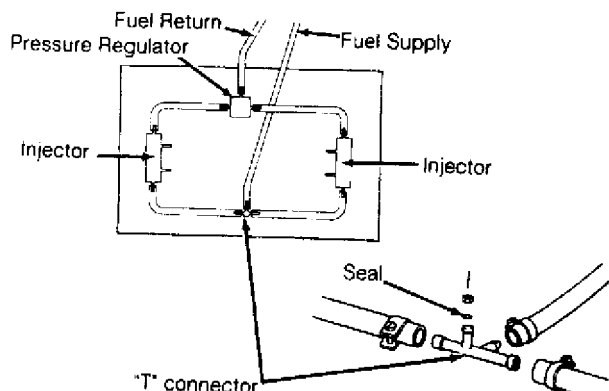

Fig. 2: Testing Fuel Pump Pressure (Vanagon)
1) Install Fuel Pressure Gauge (VW 1318) at fuel supply hose 3-way "T" connector. See Fig. 2. Using a jumper wire, connect terminals No. 30 and 87 on fuel pump relay.